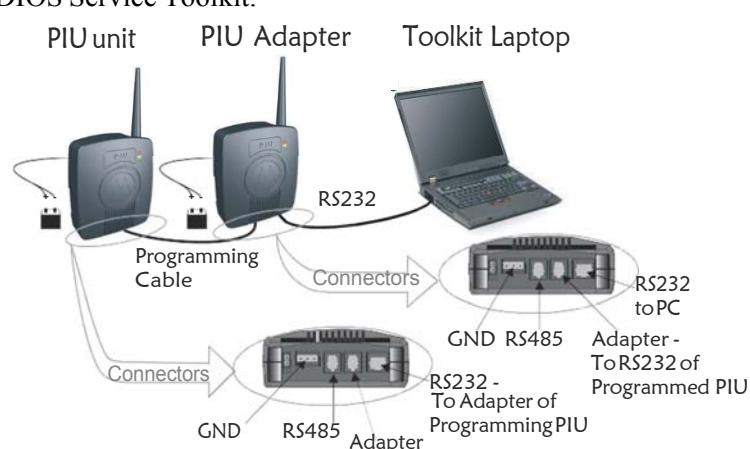

Figure 23
1. Connect the PIU adapter RS232 port to the computer with the FTM6597B cable (see Figure 23).